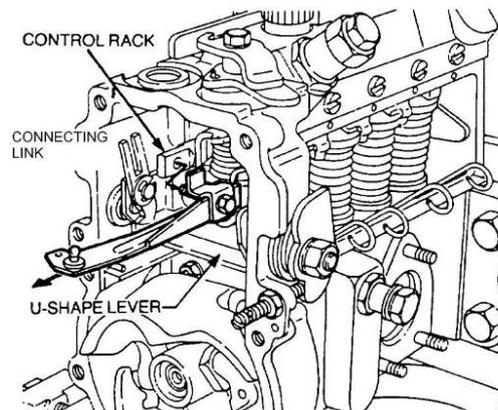

Figure 70 Removal of the Connecting Link
- l. Using long nose pliers remove the start spring from the rack connecting link. Using two spanners (8 and 10 mm), remove the nut from the bolt securing the connecting link to the control rack and remove the connecting link complete with the bolt and plate (Figure 70).